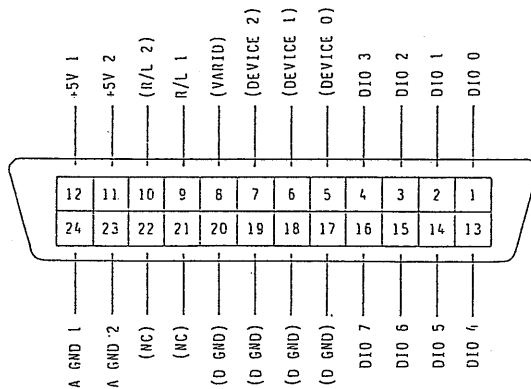

Figure 4-2
- ⑤ GAIN control potentiometers: These potentiometers control the gains of the input signals applied to ④ INPUT connectors. (0.93 V - 1.07 VDC FS)
- ⑥ REMOTE/LOCAL selector switch: If ⑥ REMOTE/LOCAL switch is set to the REMOTE state and ⑦ REMOTE control connector is connected to the REMOTE control connector of the Programmable Oscillator or AC Voltmeter to be controlled, the REMOTE indicator light of the controlled instrument turns on and the instrument can be remote-controlled with GP-IB.
- ⑦ REMOTE control connectors A1, A2, A3, A4: If ⑥ REMOTE/LOCAL switch is set to the LOCAL state, the REMOTE indicator light of the controlled instrument turns off and the instrument can be locally controlled with its panel controls.
- The layout of the pins of ⑦ REMOTE control connectors is as shown in Figure 4-2. The pins indicated with the symbols enclosed in the parentheses in Figure 4-2 are not used for the Interface.
As shown in Figure 4-2, two channels of power supply circuits and GND circuits are provided in order to cope with the feature of such instrument as Kikusui Model AVM23 AC Voltmeter which has two mutually independent input circuits.